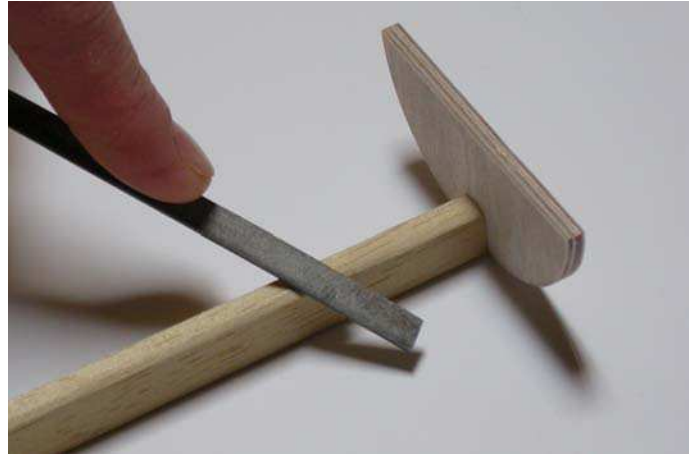

Fig.70: Smooth the part shown.
- using a flat file, smooth the part shown in figure 70;